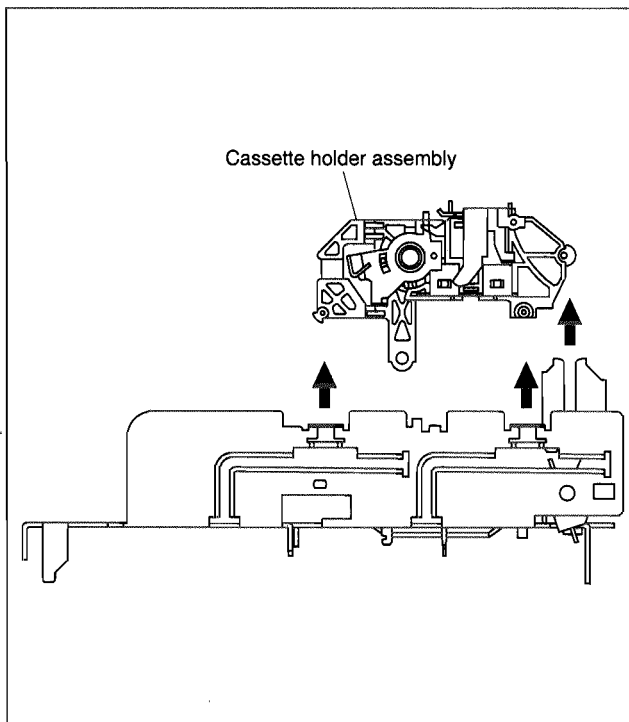
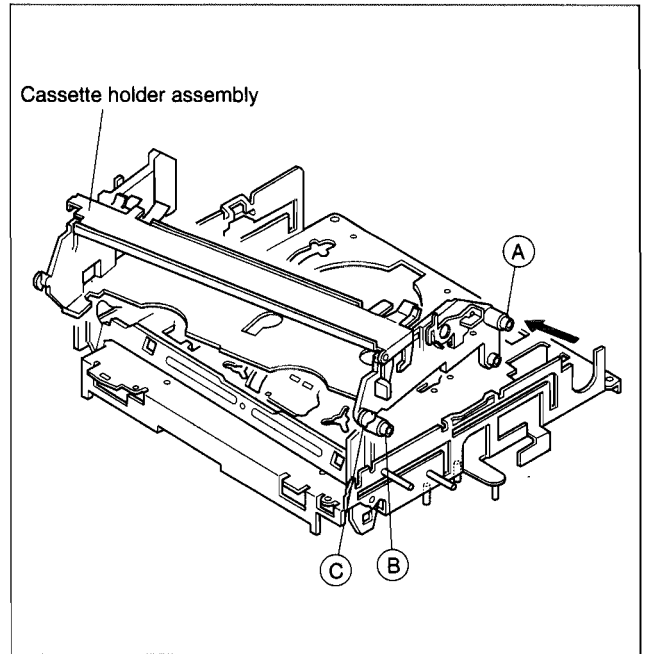

Fig. 2-2-5
Fig. 2-2-6
- (5) While holding the left side of the cassette holder, lift the cassette holder assembly so that the three legs on the left side are all released. Then pull the legs (A) and (B) on the right side out of the rail and also pull up the leg (C). (See Fig.2-2-5 and Fig.2-2-6.)